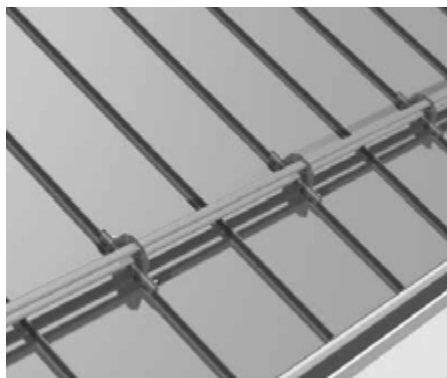

Figure 50. Attaching the snow breaker to the upright seam
Attach the snow breaker's brackets (4) to every other sheet seam with bolts (Figure 50). Push the oval tubes (2) in place and insert 8 x 35 mm bolts through the holes at their ends to prevent the tubes from sliding out sideways.